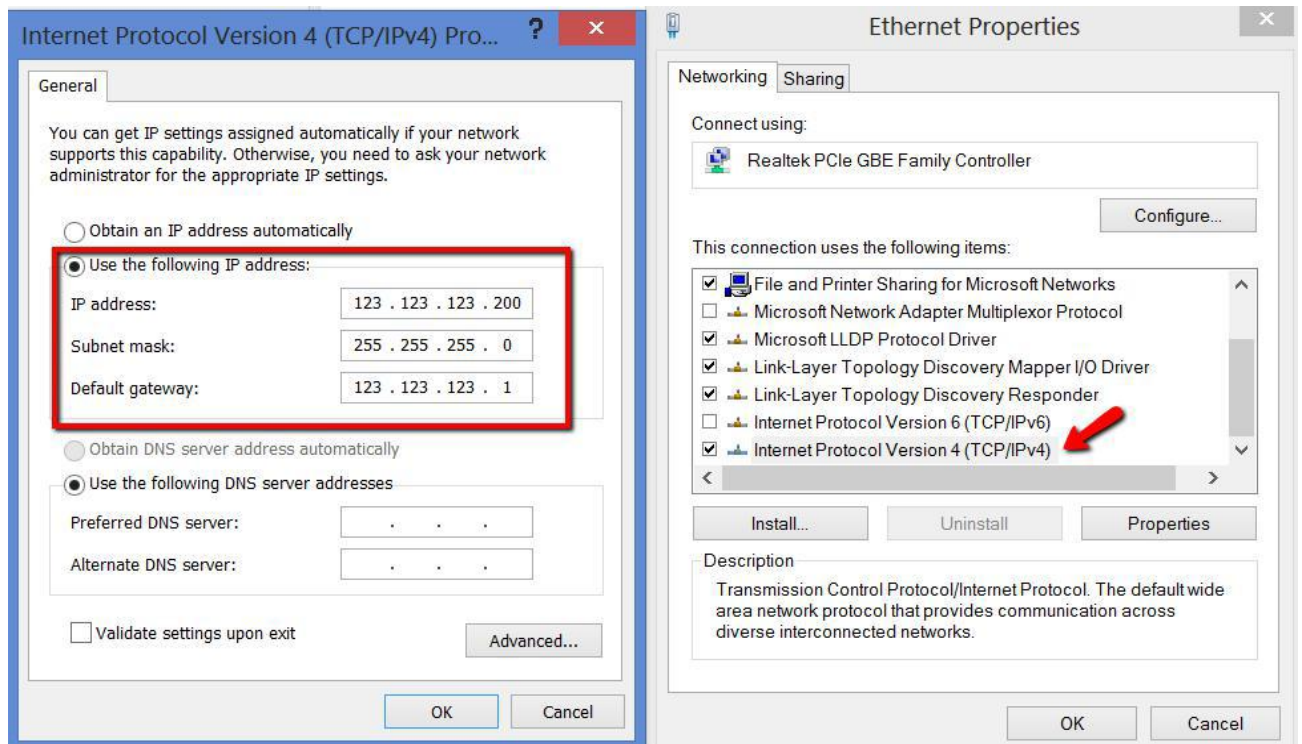

Figure 23 IP Setting
- p. Scroll Down and double click "TCP//IPv4" and Set the IP as below Figure 23.